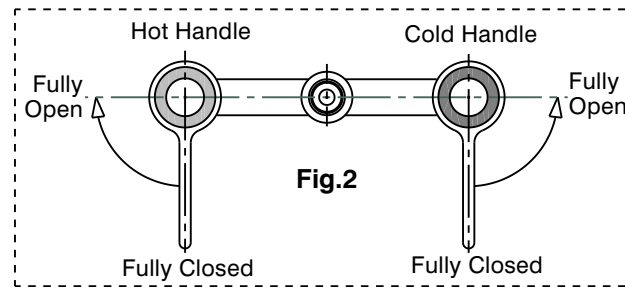
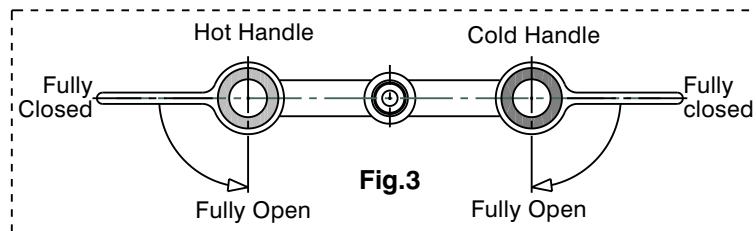

Fig.2
Fig.3
- 1) Fit 'O' rings (11) into grooves in underside of breech bodies (10). Fit breech assembly (14) into holes in deck, taking care that 'O' rings (11) remain in position. Fit one washer (12) and one backnut (13) to each tail and tighten.
- Forward closing lever handles** (ideal for opening using elbows) (Fig.2). Proceed to step 4.
- Outward closing lever handles** (more suitable for opening by hand) (Fig.3). Proceed to step 3.
- 3) Remove locknuts (7) and fibre washers from cartridges (8). Unscrew cartridges (8) from breech bodies (10). Screw cartridge (8) (with red seal 9) into left hand 'hot side' breech body (10). Using a suitable spanner, tighten cartridge (8) until it comes to a firm stop (DO NOT TIGHTEN CARTRIDGE USING SPINDLE). Fit fibre washer and then locknut (7) and tighten using a suitable spanner, taking care not to damage the thread. Fit cartridge (8) (with blue seal 9) into right hand 'cold side' breech body (10) in a similar manner.
- 4) With cartridge spindles in the fully closed position (Fig.2 or 3), fit inserts (6) onto spindles then check that lever of handles (1) are in correct alignment with each other when fitted to handle inserts (6). For small adjustments to handle position, cartridge (8) can be rotated **slightly** in an anti-clockwise direction until handles are aligned before tightening locknut (7). Remove handles (1) then fit washers (5) & nuts (4) to thread of spindles and tighten to secure inserts (6). Align handles (1) as before then engage with insert (6) & tighten screw (2) with 2mm allen key (3).